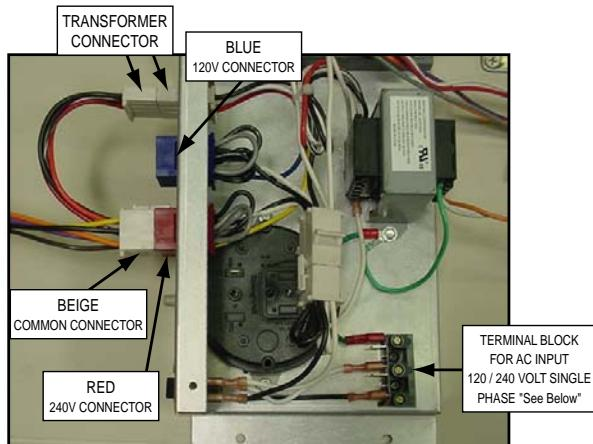

Figure 16.
- The MiniMax NT heater is prewired for 240-volt AC connection using the "RED" connector and the "BEIGE" common connector; see Figure 16 below. For 120-volt AC supply, remove the "BEIGE" common connector and plug it into the "BLUE" common connector.
You need to open the right door then remove the control panel cover for servicing the Line Terminal Block as shown in Figures 16 & 17, (see item 40 in the exploded view on page 33).